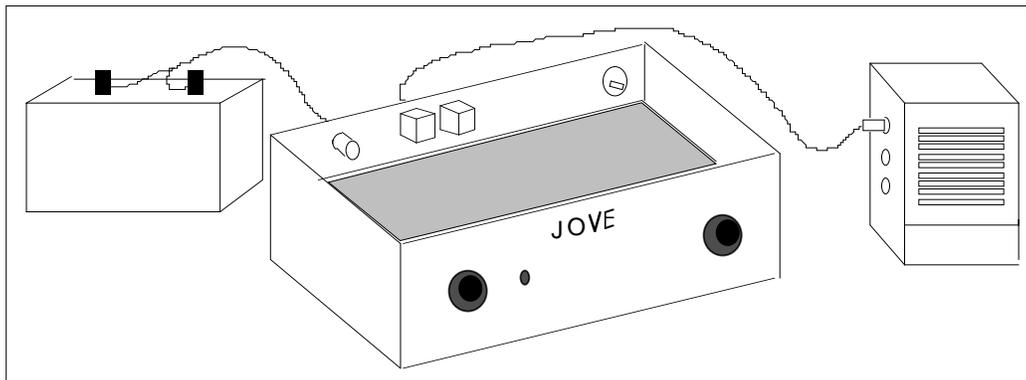

Figure 17. Test set-up: radio (with the cover off) connected to the battery and an amplified speaker
2. Turn the JOVE receiver power switch OFF. Connect either headphones or an amplified speaker (Radio Shack 277-1008C or equivalent) to the receiver audio output (J3 or J4). These jacks accept 3.5 mm (1/8 inch) monaural or stereo plugs. Connect the JOVE receiver to the 12 volt power source as shown in Figure 17.